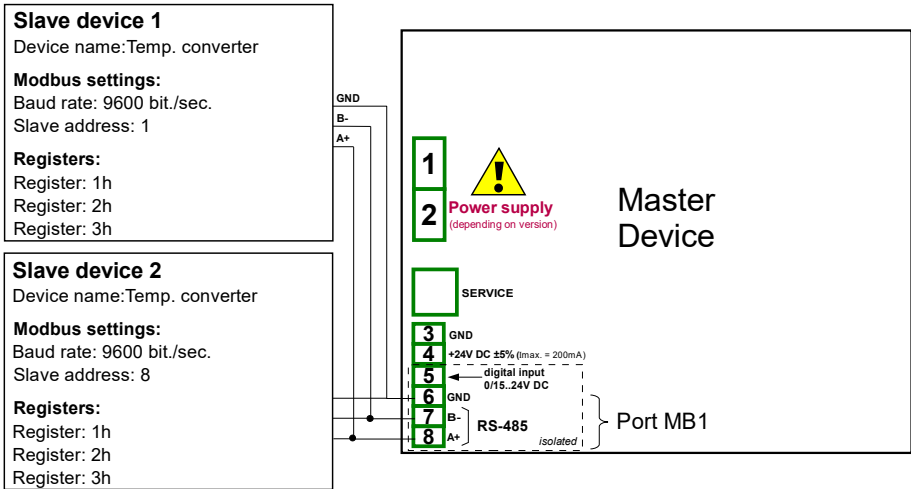

Fig. 7.154. Connection diagram for the Modbus port MB1
First configure the device, then connect the SLAVE device to the MultiCon (in accordance with **Fig. 7.154**).
- using the arrows in the upper right corner choose **Port number: 1 (MB1)** in accordance with **Fig. 7.154**,